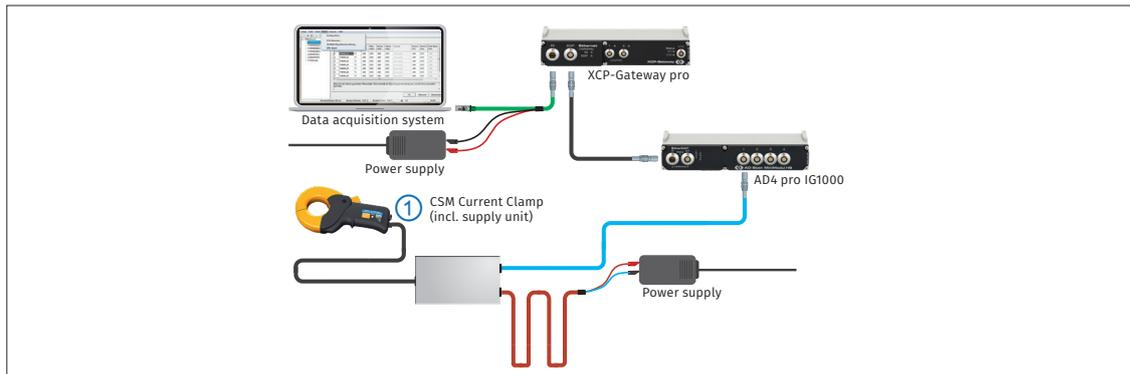
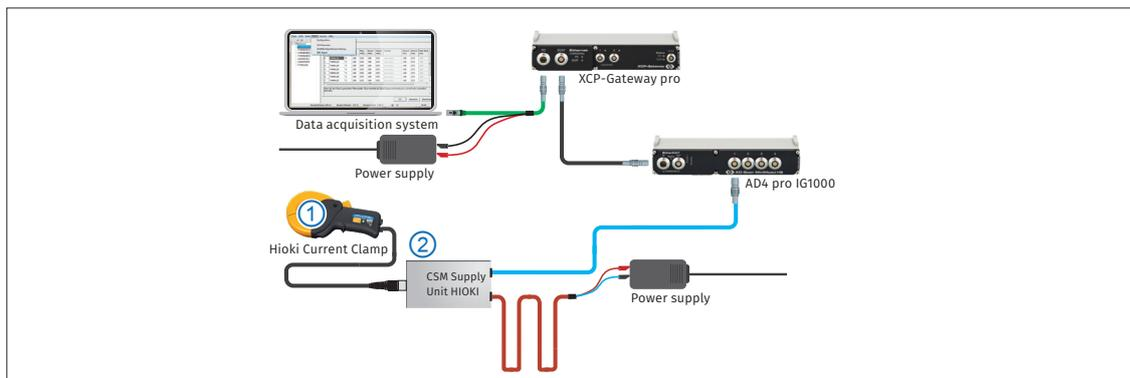
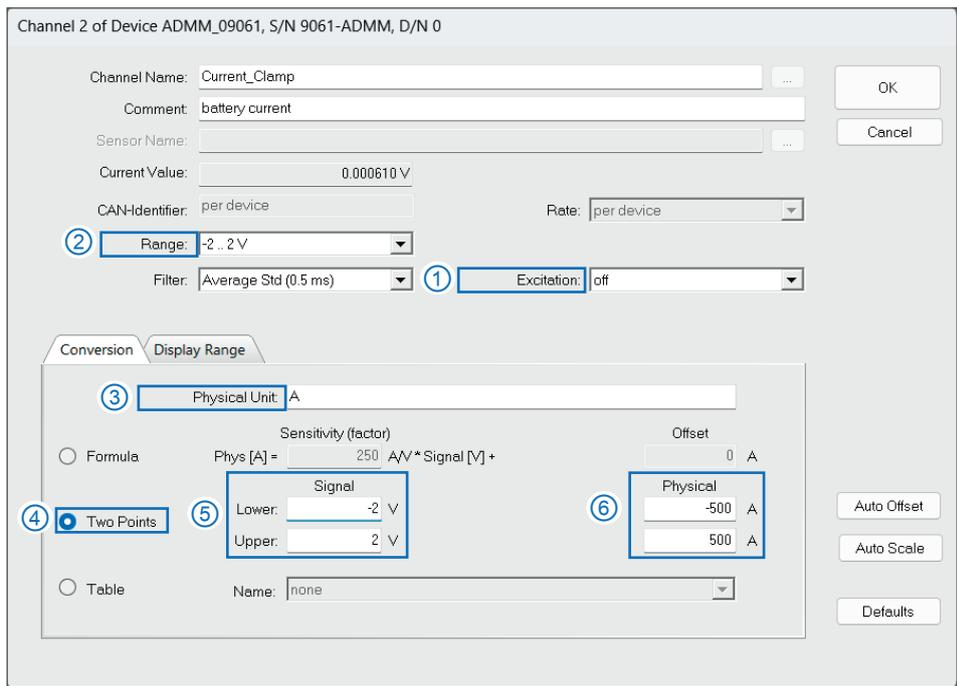

Fig. 1-1: Setup for current measurements with CSM Current Clamp (current clamp and supply unit)
Fig. 1-2: Setup for current measurements with a Hioki Current Clamp and a separate CSM Supply Unit Hioki.
Fig. 1-7: Channel configuration dialog – settings for Hioki Current Clamp (-500 A .. 500 A)
- ▶ **CSM Current Clamps:** CSM Current Clamps consist of a Hioki current clamp¹ and a supply unit as shown in Fig. 1-1. The two components are firmly connected to each other via the output cable of the current clamp.
- ▶ **Hioki Current Clamps (with connector ME15W):** The CSM Supply Unit HIOKI (ART1360490) allows customers to use separately purchased Hioki Current Clamps equipped with a ME15W connector in CSM measurement setups (Fig. 1-2).
- ☞ Connect the supply unit to the power supply (Fig. 1-2).
- ☞ Connect the blue signal cable of the supply unit to the measurement input of the AD4 ECAT MiniModule (Fig. 1-2).³
The current clamp is connected to an external power supply (see Fig. 1-1 and Fig. 1-2). The sensor excitation provided by the measurement module is therefore not needed and can be disabled in the channel configuration dialog (Fig. 1-7, ①).
A CSM Current Clamp (Fig. 1-1) is equipped with a TEDS chip (IEEE 1451.4). The TEDS chip comprises the data for the two-point scaling of the CSM Current Clamp and the setup data for the AD4 ECAT measurement module.
i	Hioki current clamps with an MW15E connector (Fig. 1-2) generally have to be configured manually.
The current clamp converts the measured current I_p into an output voltage U_{Sensor} . To make sure that the voltage supplied by the current clamp is correctly interpreted by the measurement module, some settings have to be adjusted. The following section shows which values have to be adjusted for the corresponding CSM Current Clamp / Hioki current clamp in the channel configuration dialog (Fig. 1-7).
i	If a calibration certificate is available for the current clamp, the corresponding values from the calibration certificate are to be used for Physical Lower and Physical Upper (Fig. 1-7, ⑥) instead of the values in Tab. 1-1.
- ☞ Go to **Range** and select "-2 .. 2 V" (Fig. 1-7, ②).
- ☞ Go to **Physical Unit** (Fig. 1-7, ③) and enter an "A" for Ampere.
- ☞ Enable the **Two Points** option (Fig. 1-7, ④) to enter the scaling values.
- ☞ Enter the following values in section **Two Points, Signal** (Fig. 1-7, ⑤) and **Physical** (Fig. 1-7, ⑥):
i	In order to be able to measure peak currents, the measurement range (Fig. 1-7, ②) has to be extended. Please refer to the corresponding Hioki instruction manual for the permitted peak currents.